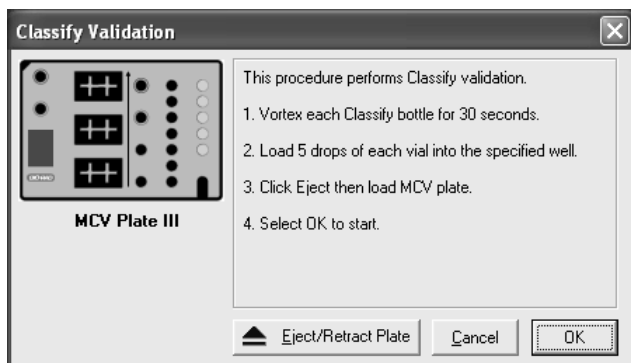

Fig. 10. Classify validation dialog.
3. Enter user name and control number. Select OK, the following dialog box appears (Figure 10).
3. Place 5 drops of each classify bead into the corresponding classify well labeled as A, B, C, D, and E in the MCV plate III (see Figure 10).
6. Enter the User name and select control number. Select classify validation. Select OK. The following dialog box appears. (Figure 10)